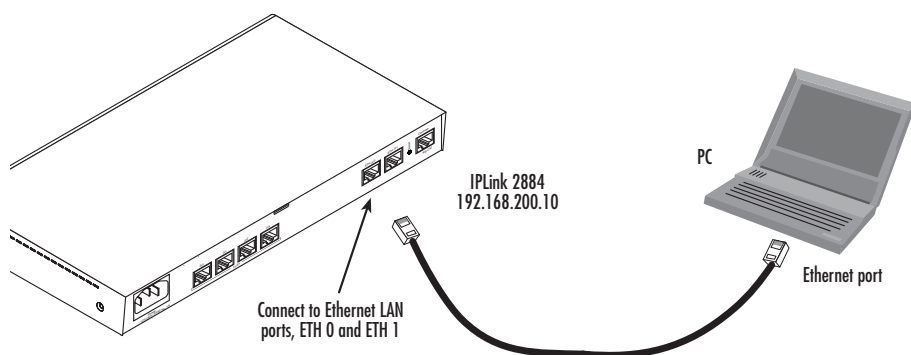

Figure 3. Connecting to the PC's ENET port
1. To access the OnSite configuration, connect a PC's Ethernet port to the OnSite's LAN port (see **Figure 3**). Use the black Ethernet cable included with your OnSite for this purpose.